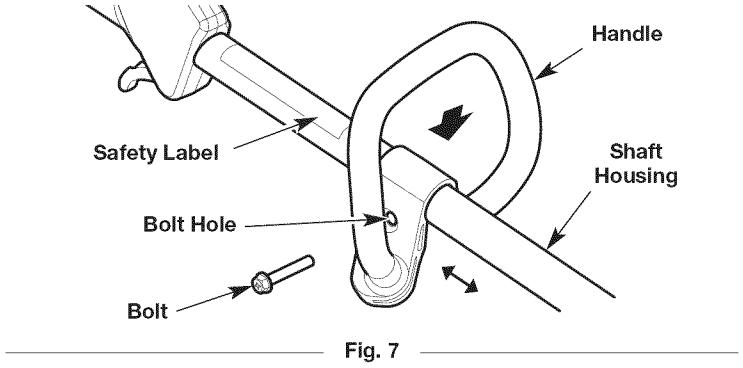

Fig. 7
1. Push the handle down onto the shaft housing (Fig. 7). Make sure the bolt hole faces to the right (Fig. 7).
2. Insert the bolt into the bolt hole and push it through (Fig. 7). Tighten the bolt with a flat-head screwdriver, but do not tighten the bolt completely.
3. Hold the unit in the operating position (Fig. 15) and move the handle to a comfortable location (Fig. 7). Make sure the handle is positioned beyond the end of the safety label (Fig. 7).
1. Loosen the bolt with a flat-head screwdriver (Fig. 7).
2. Hold the unit in the operating position (Fig. 15) and move the handle to a comfortable location (Fig. 7). Make sure the handle is positioned beyond the end of the safety label (Fig. 7).